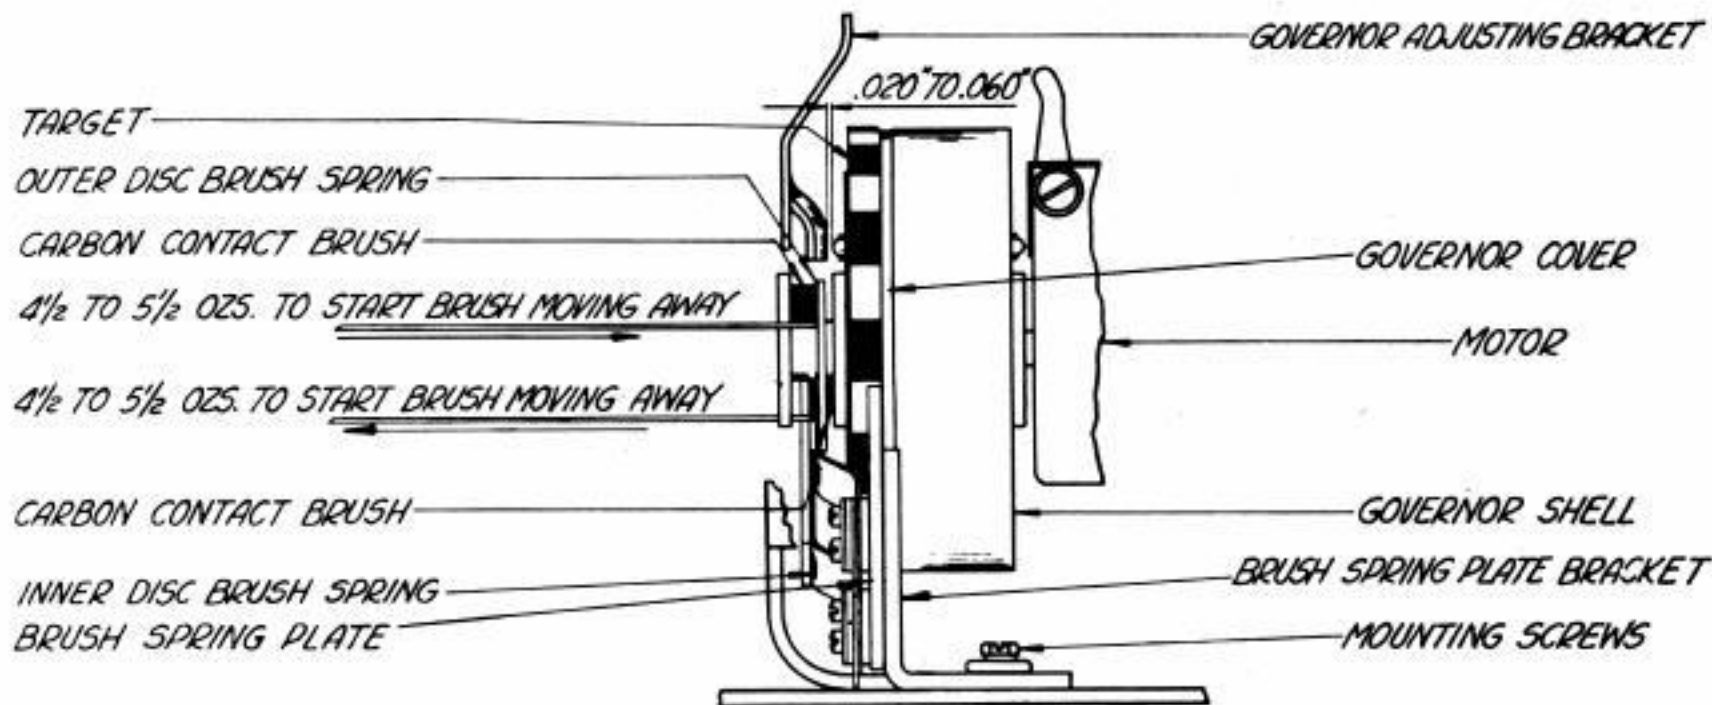

FIGURE 25
- (b) The surface of the brush spring plate bracket, on which the brush spring plate is mounted, aligns with the outer surface of that part of the governor cover on which the target is mounted (Figure 25).
Governor Brush Spring Pressure (Figure 25)
### Governor Adjusting Bracket Adjustment (Figure 25)